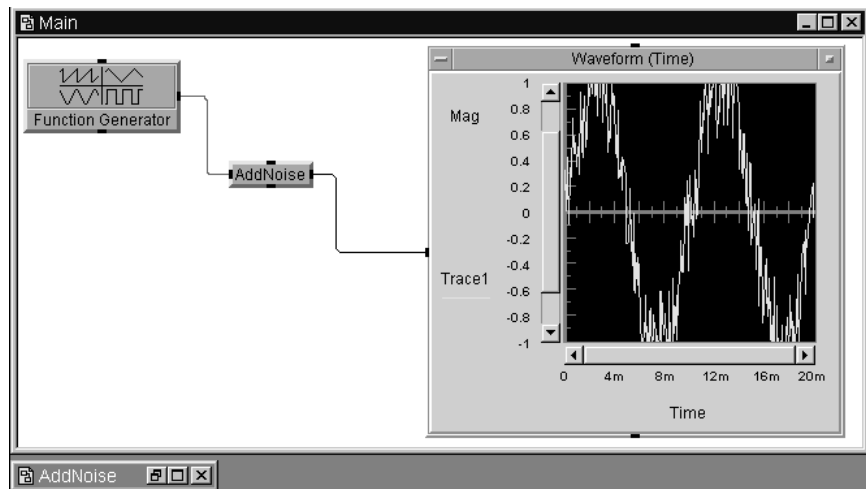

Figure 44 Noisy Cosine Wave
- 8 Click the **Run** button to display the noisy cosine wave as shown in Figure 44. Note that AddNoise is minimized, and appears in icon form at the bottom of the work space. To minimize AddNoise, click on the minimize button in its title bar, shown as the underline symbol (_).